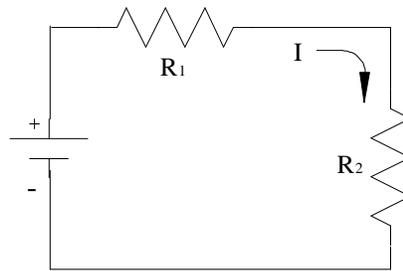

Figure 2: Resistors in Series
If we have two resistors connected in series (Figure 2), we can replace them by a single equivalent resistance R whose value is given by
11. Connect the two resistors in series as shown in Figure 2 and measure the total voltage drop across them as if they were one resistor. Also measure the current flowing in the circuit.